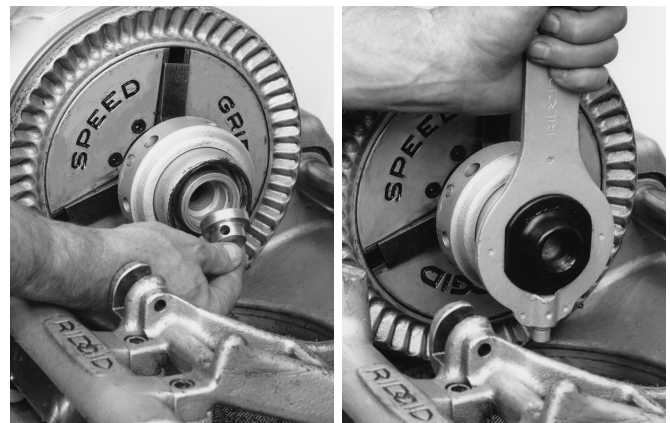

Figure 2 – Installing Nipple Chuck Body and Adapter
2. Place nipple chuck body (*Figure 2*) in Threading Machine chuck, gripping jaw grooves. Tighten chuck with snap spin of handwheel.
4. Select proper size nipple chuck adapter and screw into nipple chuck (*Figure 2*) by hand. Tighten with wrench provided with nipple chuck.